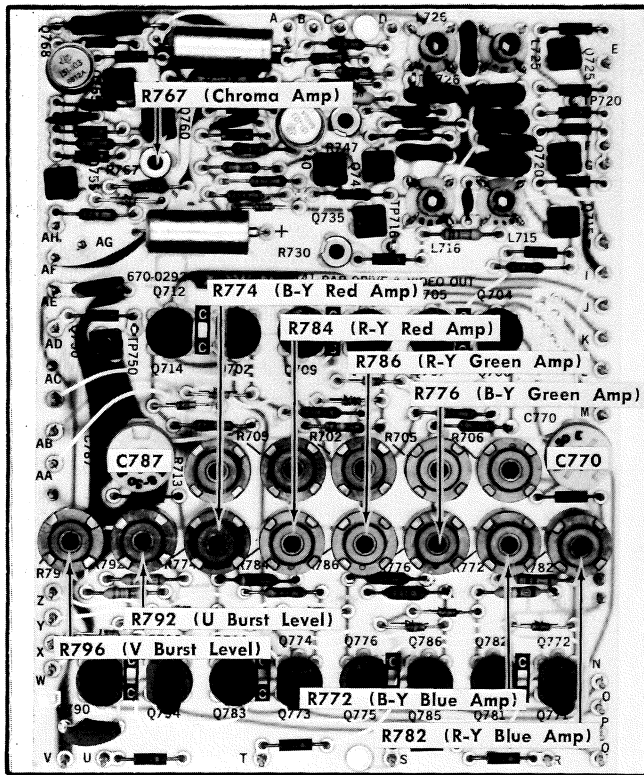

Fig. 5-23. Bar Drive and Video Output board adjustment locations.
i. ADJUST—C770 and C787 (see Fig. 5-23) for minimum aberration (32 mV or less).